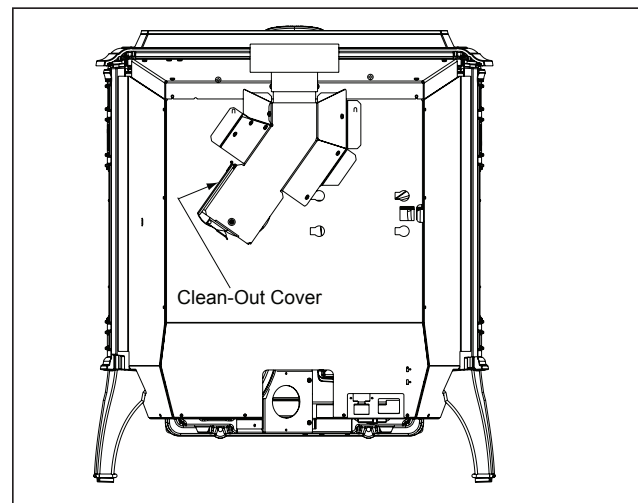

Figure 26.1
- b. Open the clean out cover. **Figure 26.1.**